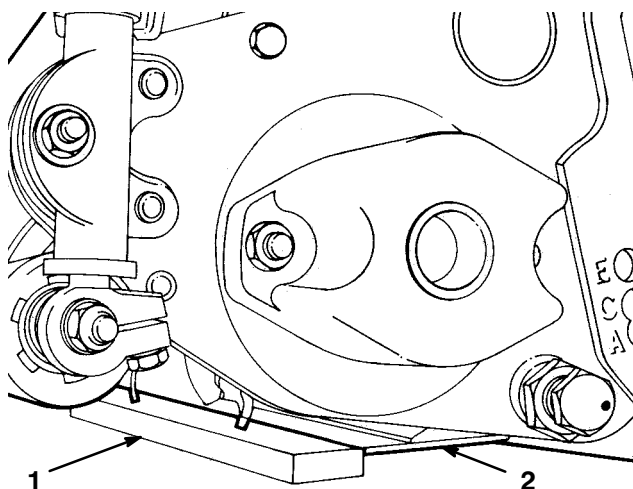

**Figure 4**
4. After positioning the bolts into the correct height-of-cut hole position, install the flat washers and nuts and securely tighten the right-hand rear roller bracket capscrews (Fig. 4).